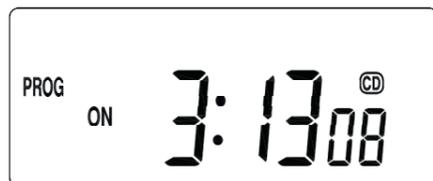

Fig. 3
2. With the **▲** (UP) or **▼** (DOWN) key, set this box to 3, then press the **OK** key confirm it, **Hour** box will stop flashing, the **Minute** box should then flash.
3. With the **▲** (UP) or **▼** (DOWN) key, set this box to 13, then press the **OK** key, **Minute** box will stop
4. With the **▲** (UP) or **▼** (DOWN) key, set this box to 8, then press the **OK** key.
5. Press the **OK** key to conclude the countdown setting. The display will now resemble that shown in Fig. 3. The Countdown time will reduce with each second.